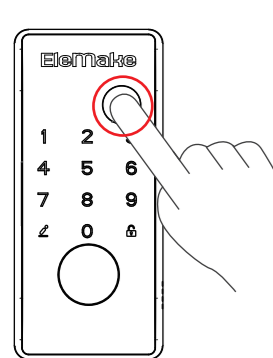

Figure P-0
(1) Fingerprint unlocking (Figure P-0)